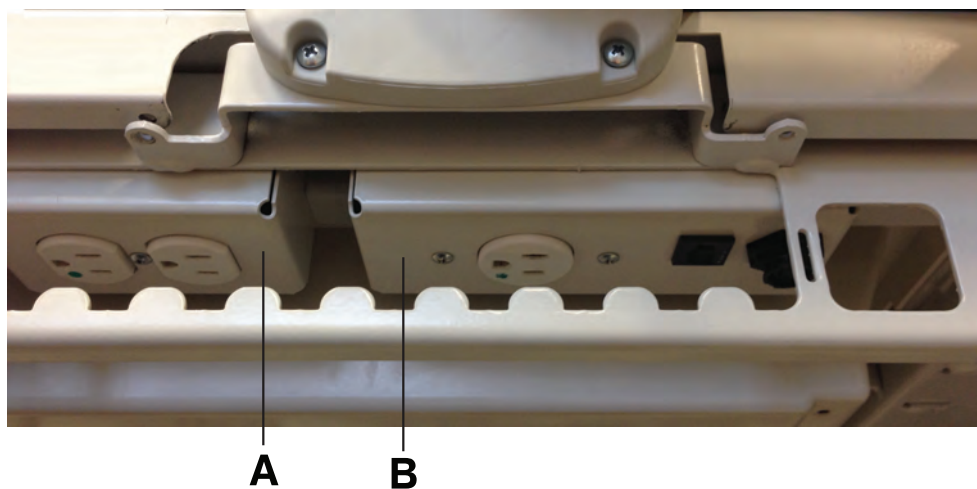

Figure 12: Optional InTouch auxiliary outlets
You can use the 110 volt **InTouch** auxiliary power outlet as a built-in power source for peripheral equipment. The outlet is located beneath the foot end on the patient left side of the product (A) (Figure 1 on page 11). There is a one and two plug option for the **InTouch** auxiliary outlet (A) (Figure 12 on page 28).
There is also an auxiliary mattress connector outlet for connecting a support surface option to InTouch (B) (Figure 12 on page 28). A 5A breaker is also integrated into this power outlet.